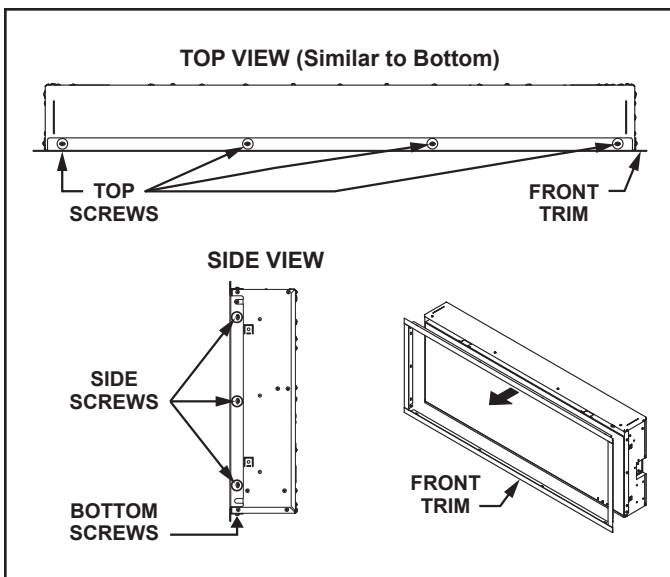

Figure 3 Remove Trim Screws
6. Remove the ST4x8 screws from the top, bottom, and sides of the appliance. See Figure 3.